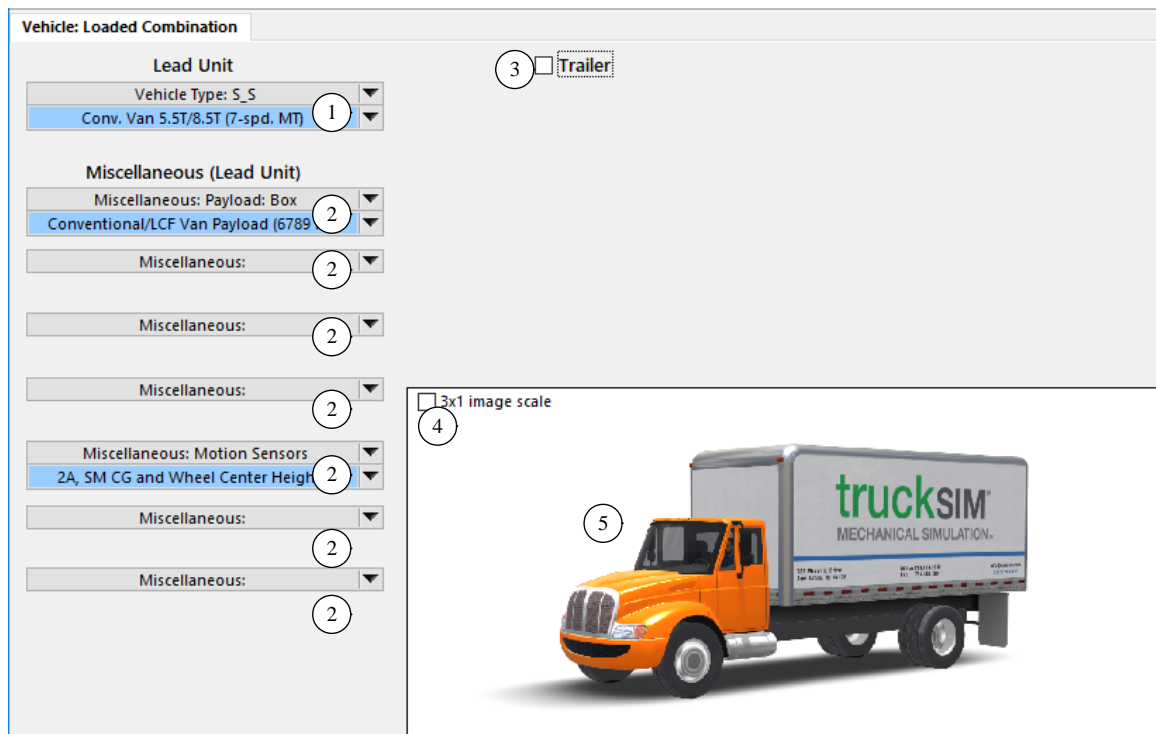

Figure 11: Vehicle: Loaded Combination screen with no trailers.
Figure 11 and Figure 12 show the **Vehicle: Loaded Condition** screen used to combine a lead unit with a trailer or trailers, and/or add payloads, sensors, and custom model extensions.
- ① The vehicle type shown here is used to determine which of many VS Solver programs should be used to make the simulation run. (In Figure 11 it is `S_S` and in Figure 12 it is `S_SS`.) When the linked dataset has an associated image, that image will be shown ⑤ when the link is made.
- ② Links to miscellaneous datasets that add optional parts to the lead unit, such as payloads, motion sensors, target objects, user-defined forces and moments, and sets of VS Commands.
- ③ Trailer checkbox. If not checked, then the vehicle has no trailer, and all visible settings apply for the lead unit (Figure 11). When checked, additional links appear for specifying a trailer ④, its loads, sensors, and other items ⑥ (Figure 12).
- ④ **3x1 image scale** checkbox. If the image of the vehicle looks distorted, try checking or unchecking this box to improve the appearance.